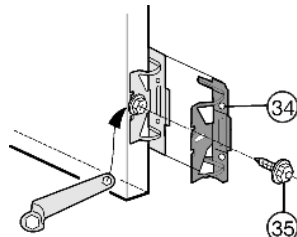

Fig. 13
- ▶ Screw mounting bracket Fig. 13 (34) with hexagon screw Fig. 13 (35) into the pilot holes in the appliance door.